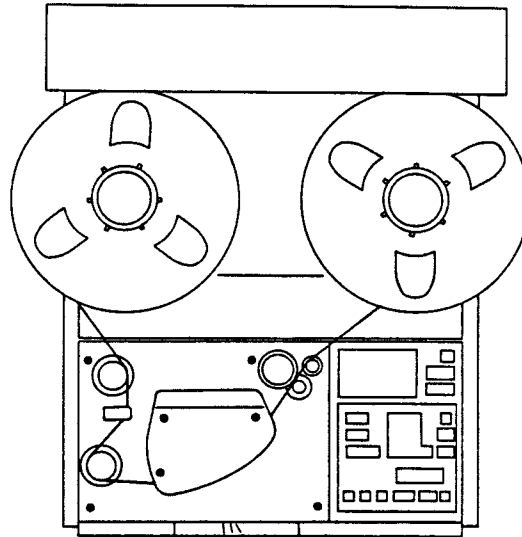

Figure 3-2. Tape Path
- STEP 4** Remove the opaque card and thread a reel of tape onto the machine as shown in Figure 3-2. Ensure that the frames decimal point in the TAPE TIME Display extinguishes to indicate that a valid radius has been established.